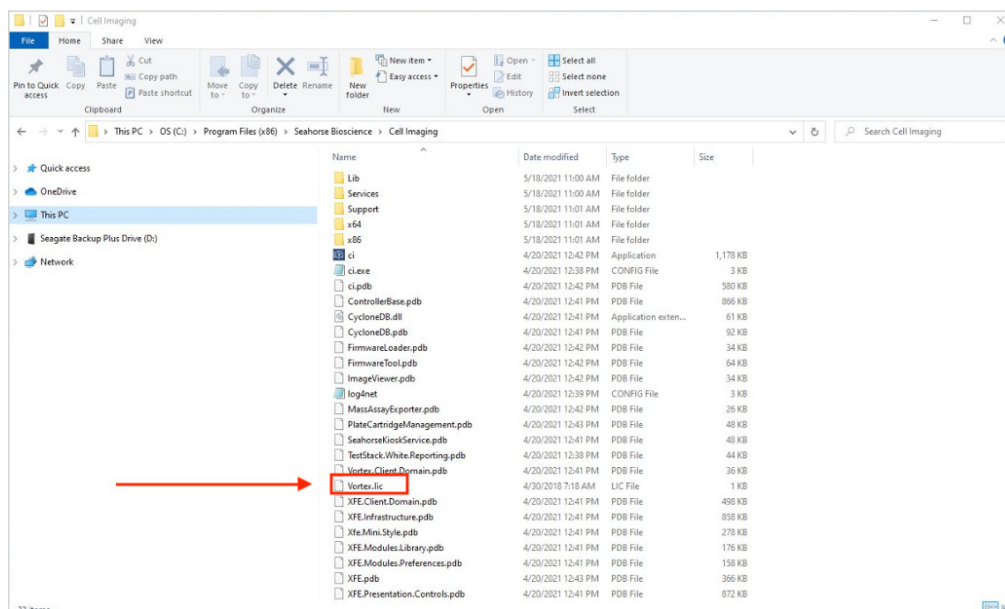

Figure 27. Copy the **vortex.lic** license file to this location from your external storage device.
- 14 Copy the **vortex.lic** license file to this location from your external storage device (Figure 27).